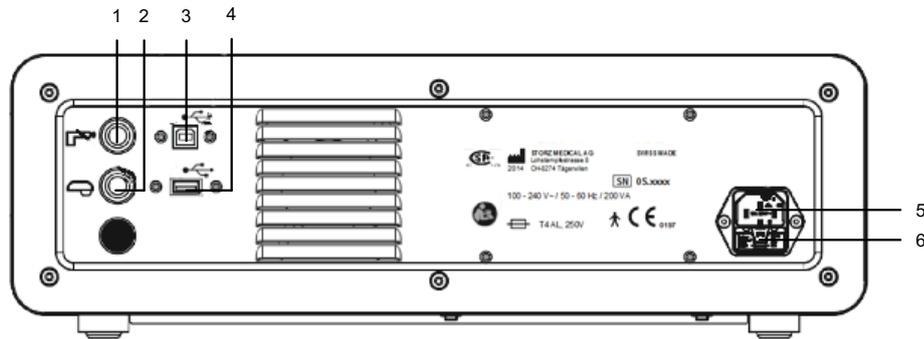

Fig. 3-3 Rear MASTERPULS® MP100
- Connect the mains cable to the mains connector on the rear of the device (see FIG. 3-3 REAR MASTERPULS® MP100).
- Plug the other end of the USB B cable into the USB B 1.1 device connector on the rear of the MASTERPULS® MP100. (See **Fig. 3-3 /3**)